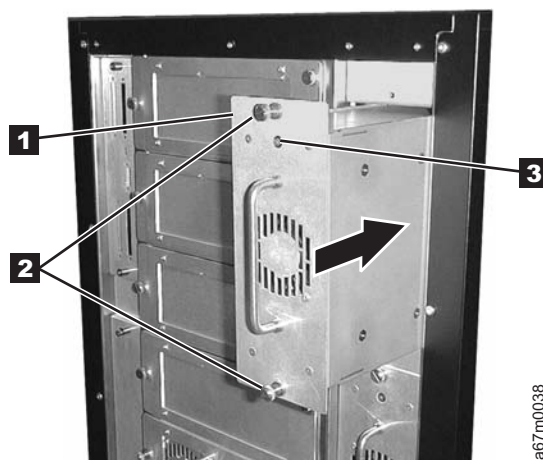

Figure 14-31. Installing a redundant dc power supply
3. Loosen the two captive thumbscrews **4** on the cover plate and remove the cover plate (see Figure 14-31 on page 14-31).
Note: Before inserting the dc power supply, be sure to orient the power supply so that the LED **3** is located as shown in Figure 14-31 on page 14-31.
4. Slide the power supply (**1** in Figure 14-31 on page 14-31) into position until it mates with the power distribution board and tighten the two captive thumbscrews **2**.